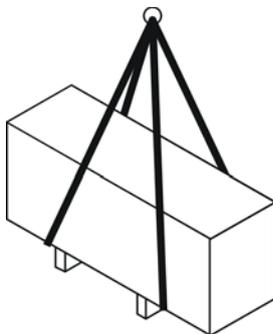

Fig. 27: Transport with a crane
1. ➤ Attach ropes, belts or multi-point suspension gear as shown in Fig. 27.